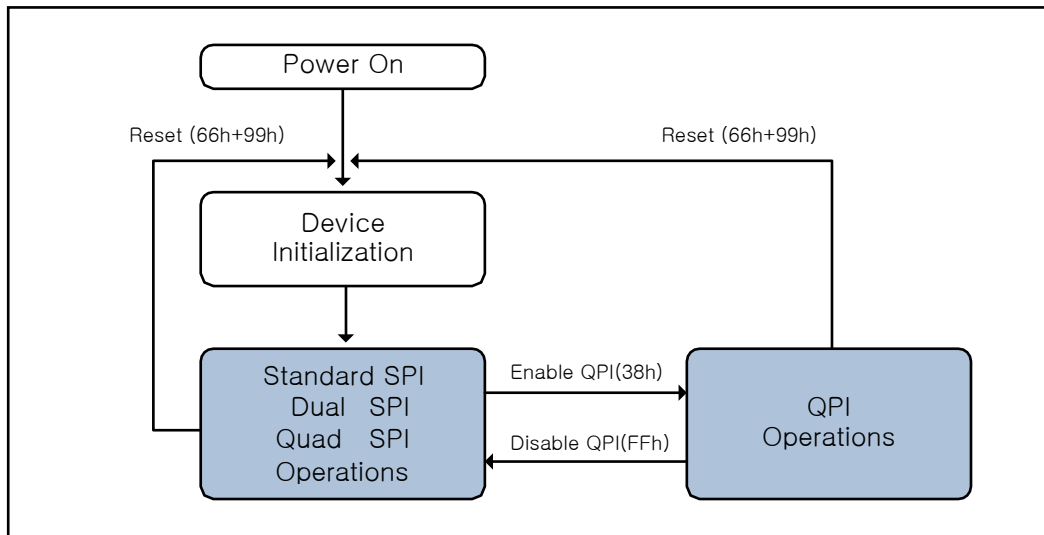

Figure 3. Operation Diagram of FM25M64C
The FM25M64C supports Quad Peripheral Interface (QPI) operation when the device is switched from Standard/ Dual/ Quad SPI mode to QPI mode using the “Enable QPI (38h)” instruction. To enable QPI mode, the non-volatile Quad Enable bit (QE) in Status Register-2 is required to be set. When using QPI instructions, the DI and DO pins become bidirectional IO0 and IO1, and the /WP and /HOLD pins become IO2 and IO3 respectively. See Figure 3 for the device operation modes.